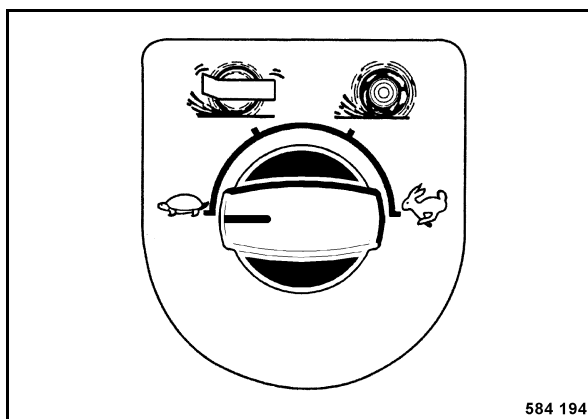

Fig. 53
- Select the desired travel speed range (Fig. 53).